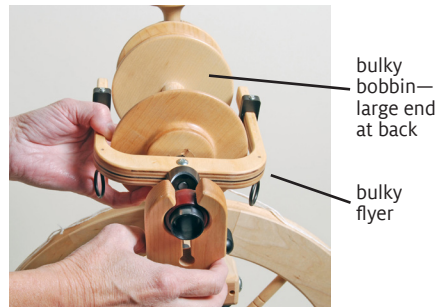

FIGURE 9: INSTALL BULKY FLYER
8. Put the bulky bobbin on the bulky flyer with the bobbin's large end at the back of the wheel. Put your desired whorl on the flyer (Figure 9).